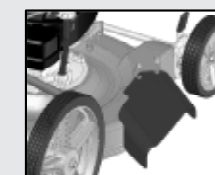

Fig. 01
To assemble the baffle, position it on the chassis as shown in the figure [Fig. 01], fit the two M6 (1) screws into the baffle holes, using the flat washers (2) between the screw head and the baffle [Fig. 02]. To complete the assembly, fasten the the nuts M6 (3) that accompany the product [Fig. 02].
Para montar o defletor, posicione-o sobre o chassi como indicado na figura [Fig. 01], encaixe os dois parafusos M6(1) na furação do defletor, utilizando as arruelas lisas(2) entre a cabeça do parafuso e o defletor [Fig. 02].